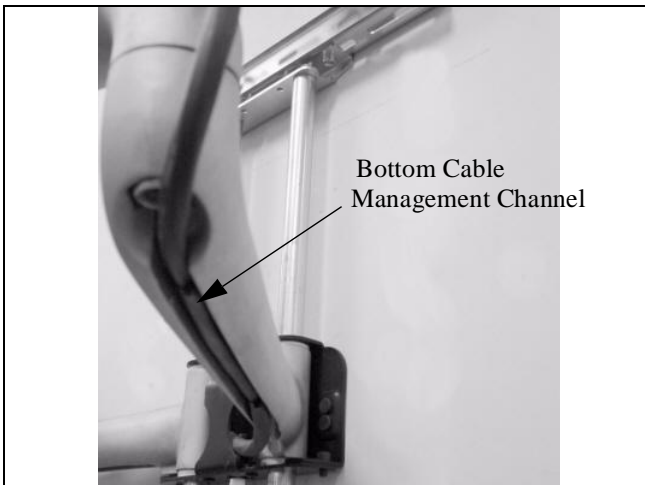

Figure 9
2. Route power/audio/video cables along bottom arm (see Figure 9), using tiewraps (50, not shown) to secure cables to each arm, and through cable channel.